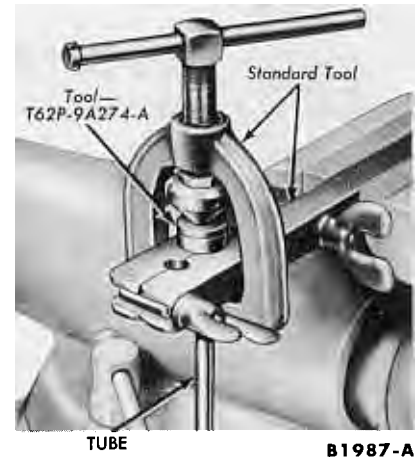

FIG. 5—Fuel Line Tube Die
2. Ream the inside edges of the cut tubing with the reamer blade on the tube cutter. **Be sure metal chips are removed from inside the tube(s).** Flare the ends of the cut tubing, as required, with a standard tube flaring kit and tool (Fig. 5).